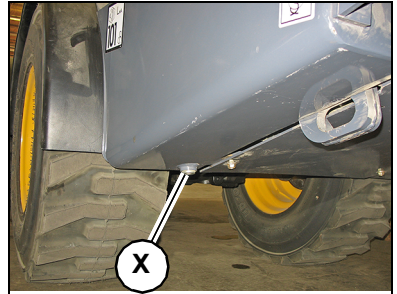

Figure 102 – Hydraulic Oil Drain
5. Remove the drain plug (X, Fig. 102) and allow the oil to drain completely.